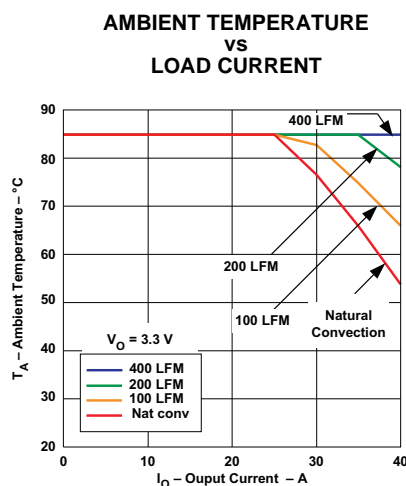
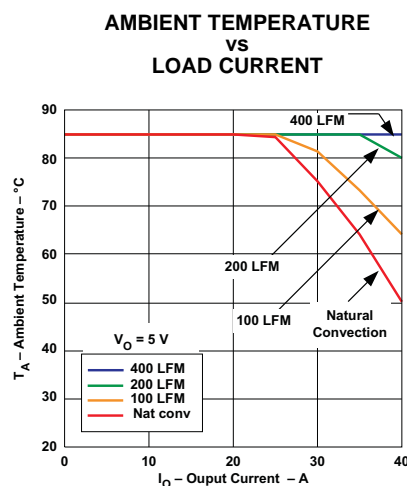

Figure 4.
Figure 5.
- (2) The temperature derating curves represent the conditions at which internal components are at or below the manufacturer's maximum operating temperatures. Derating limits apply to modules soldered directly to a 100 mm × 100 mm double-sided PCB with 2 oz. copper and the direction of airflow from pin 10 to pin 22. For surface mount packages (AS and AZ suffix), multiple vias must be utilized. Please refer to the mechanical specification for more information. Applies to Figure 4 and Figure 5.